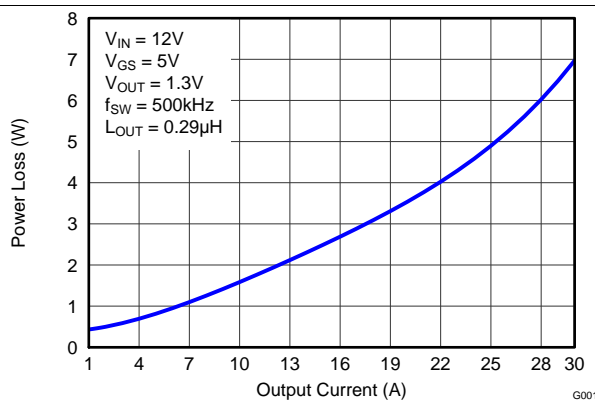

Figure 1. Power Loss vs Output Current
MOSFET-centric parameters such as  $R_{DS(ON)}$  and  $Q_{gd}$  are needed to estimate the loss generated by the devices. To simplify the design process for engineers, TI has provided measured power loss performance curves. Figure 1 plots the power loss of the CSD87384M as a function of load current. This curve is measured by configuring and running the CSD87384M as it would be in the final application (see Figure 27). The measured power loss is the CSD87384M loss and consists of both input conversion loss and gate drive loss. Equation 1 is used to generate the power loss curve.
The power loss curve in Figure 1 is measured at the maximum recommended junction temperatures of 125°C under isothermal test conditions.
- Power Loss at 20 A = 3.5 W (Figure 1)